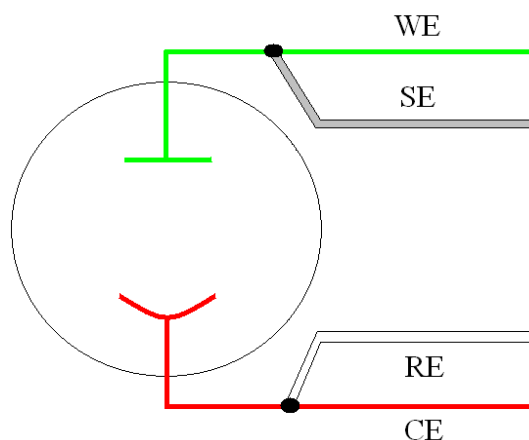

Figure 6. Two-Electrode Connection
- Green – Working (WE) electrode lead. This lead connects to the electrode of interest at which the desired reactions will occur. The current (I) is measured through the WE.
- Red – Counter (CE) electrode lead. This lead connects to the electrode opposite the WE and controls the power output of the VersaSTAT 3.
- Gray – Sense (SE) electrode lead. This usually connects to the working electrode (the combination often referred to as the working-sense), and is a component of the differential amplifier that measures/controls the voltage between itself and the reference electrode.
- White – Reference (RE) electrode lead. This connects to the reference electrode, a component of the differential amplifier that measures/controls the voltage between itself and the sense electrode.
a) Batteries, capacitors, resistors, fuel cells, and some sensors are generally connected using a two-terminal connection (Figure 6). The connectors for the cable leads are designed to allow easy interconnection of the working/sense and reference/counter leads. **Note:** If your cell has low impedance (battery) and/or your experiment generates currents in excess of 100mA, do not connect the leads into one another for a two-terminal connection. Instead, connect the leads independent of one another to their proper terminal at the cell to prevent voltage offsets that can result from milliohms of contact resistance in a “piggy-back” connection as shown below.